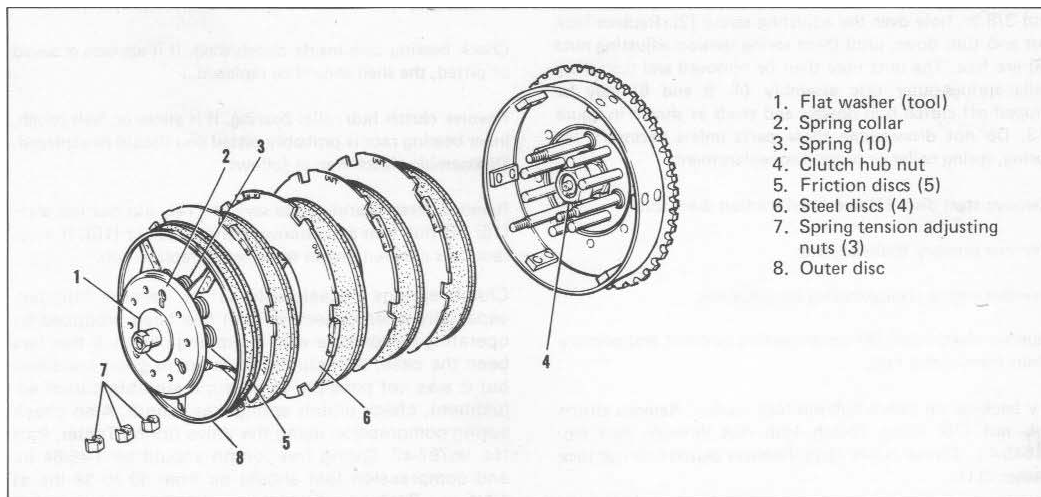

Figure 4-3. Removing Clutch
A new clutch is assembled so the distance from inner edge of spring collar (2, figure 4-3) to the surface of the outer disc (8) is exactly 1-1/32 in. If springs are compressed so this distance is 7/8 in. or less, the clutch probably cannot be fully disengaged. Check this dimension at several points to make sure that releasing disc is parallel with plates.
Remove push rod adjusting screw lock nut (1). Place a flat washer about 1/8 in. thick with 1-3/4 in. outside diameter and 3/8 in. hole over the adjusting screw (2). Replace lock nut and turn down until three spring tension adjusting nuts (3) are free. The nuts may then be removed and the spring collar-springs-outer disc assembly (4, 5 and 6) may be slipped off clutch hub dowels and studs as shown in figure 4-3. Do not disassemble these parts unless necessary for spring, spring collar or outer disc replacement.